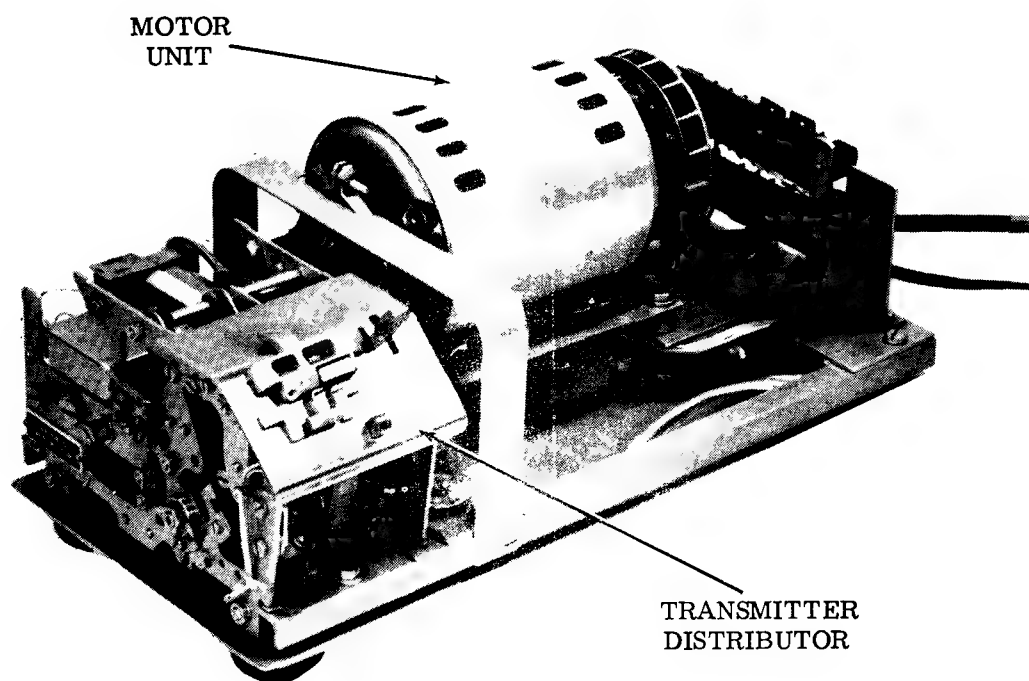

Figure 2 - Single Contact, Single Mounting Transmitter Distributor Base
2.07 The base provides a rigid mounting support for the transmitter distributor and a motor unit (Figure 2). An intermediate gear assembly is mounted between the motor unit position and the transmitter distributor unit position.